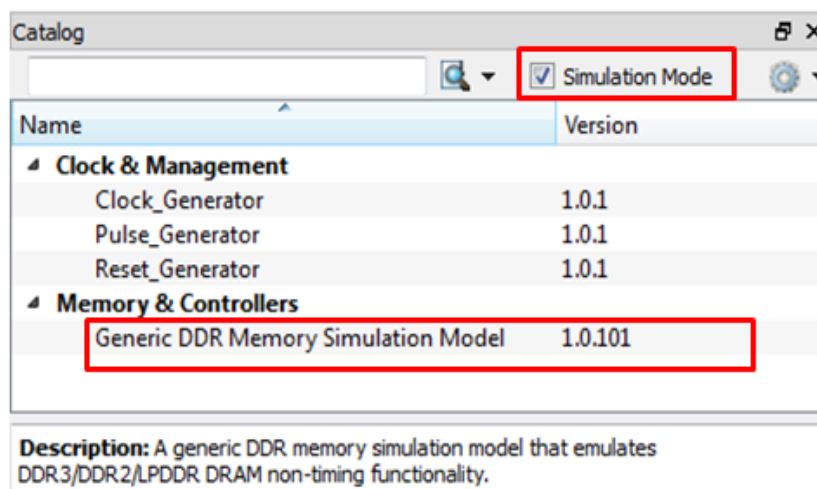

Figure 22 • Generic DDR Memory Simulation Model
3. Under **Memory and Controller**, select **Generic DDR Memory Simulation** model and drag into the SmartDesign testbench canvas. Figure 22 shows the Simulation model.